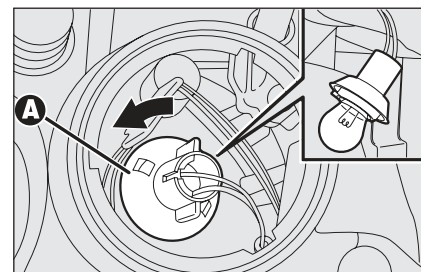

fig. 28
- ☐ turn the bulb holder **A-fig. 28** counterclockwise, remove the bulb and replace it;